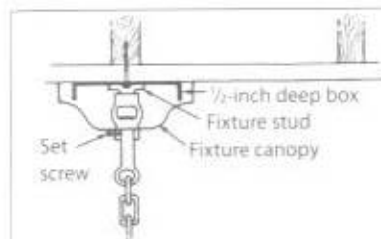
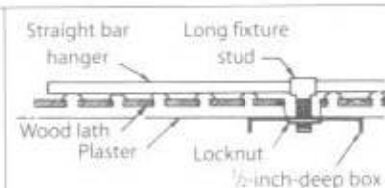
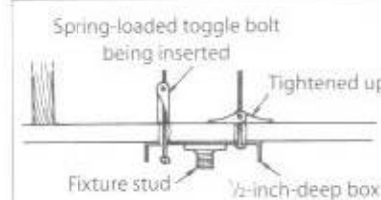

Fig. 13-9 Surface-mounted  $\frac{1}{2}$ -inch-deep box fastened to ceiling joist.
Fig. 13-10 Surface-mounted  $\frac{1}{2}$ -inch-deep box supported from bar hanger by long fixture stud.
Fig. 13-11 Surface-mounted  $\frac{1}{2}$ -inch-deep box supported from drywall toggle bolts.
If all the work must be done from below, the method depends on the ceiling construction, the location of the outlet, and the weight of the fixture. Boxes supporting fixtures weighing more than a few pounds must be fastened to the building structure. One method is shown in Fig. 13-9. For lightweight fixtures the ceiling itself can support the box. Use one of these methods: (1)  $\frac{1}{2}$ -inch-deep box, surface mounted, supported by a ceiling joist using screws; (2)  $\frac{1}{2}$ -inch-deep box, surface mounted, supported by fixture stud on bar hanger (Fig. 9-8) which has been poked up through a hole (which the box covers) and laid across the wood laths (Fig. 13-10); (3)  $\frac{1}{2}$ -inch-deep box, surface mounted, supported by toggle bolts through ceiling, either lath and plaster or drywall (Fig. 13-11); (4)  $1\frac{1}{2}$ -inch-deep box with ears, flush mounted, supported by a U-clamp (Fig. 13-12). When using a surface-mounted  $\frac{1}{2}$ -inch-deep box, be sure to select a fixture having a canopy which will cover the box, as shown in Fig. 13-9. In all these cases, fish the cable to the outlet location and fasten it to the box before securing the box.